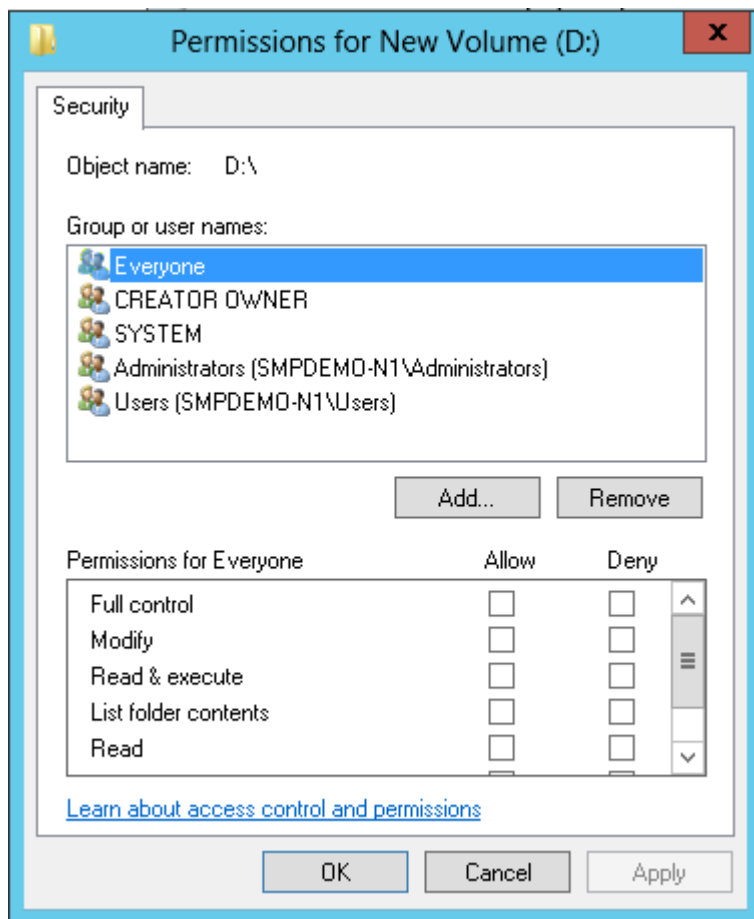

Figure 51: User or group Permission Entry screen
4. Enable or disable permissions by selecting the **Allow** box to enable permission or the **Deny** box to disable permission. If neither box is selected, permission is automatically disabled. **Figure 51: User or group Permission Entry screen** on page 133 illustrates the **Edit** screen and some of the permissions.